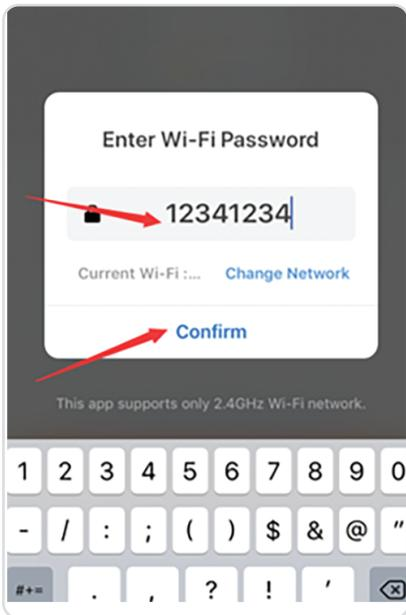

Fig. 4
- C) Input the WIFI password then confirm as shown in Fig.4